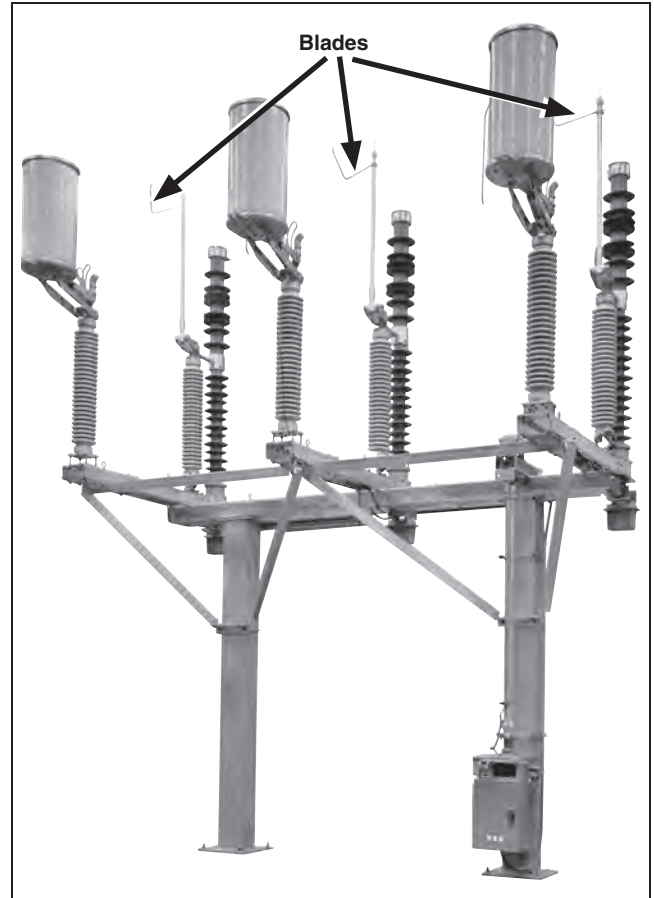

Figure 69. Switch with disconnect in Open position.
- STEP 2.** Crank the MANUAL OPERATING handle on the Mark VI CS-1A Switch Operator until the disconnect is in the fully **Open** position. Visually inspect the blade to confirm it is open. See Figure 69 on page 47. For instructions on using the MANUAL OPERATING handle refer to “Using the Manual Operating Handle” on page 30.